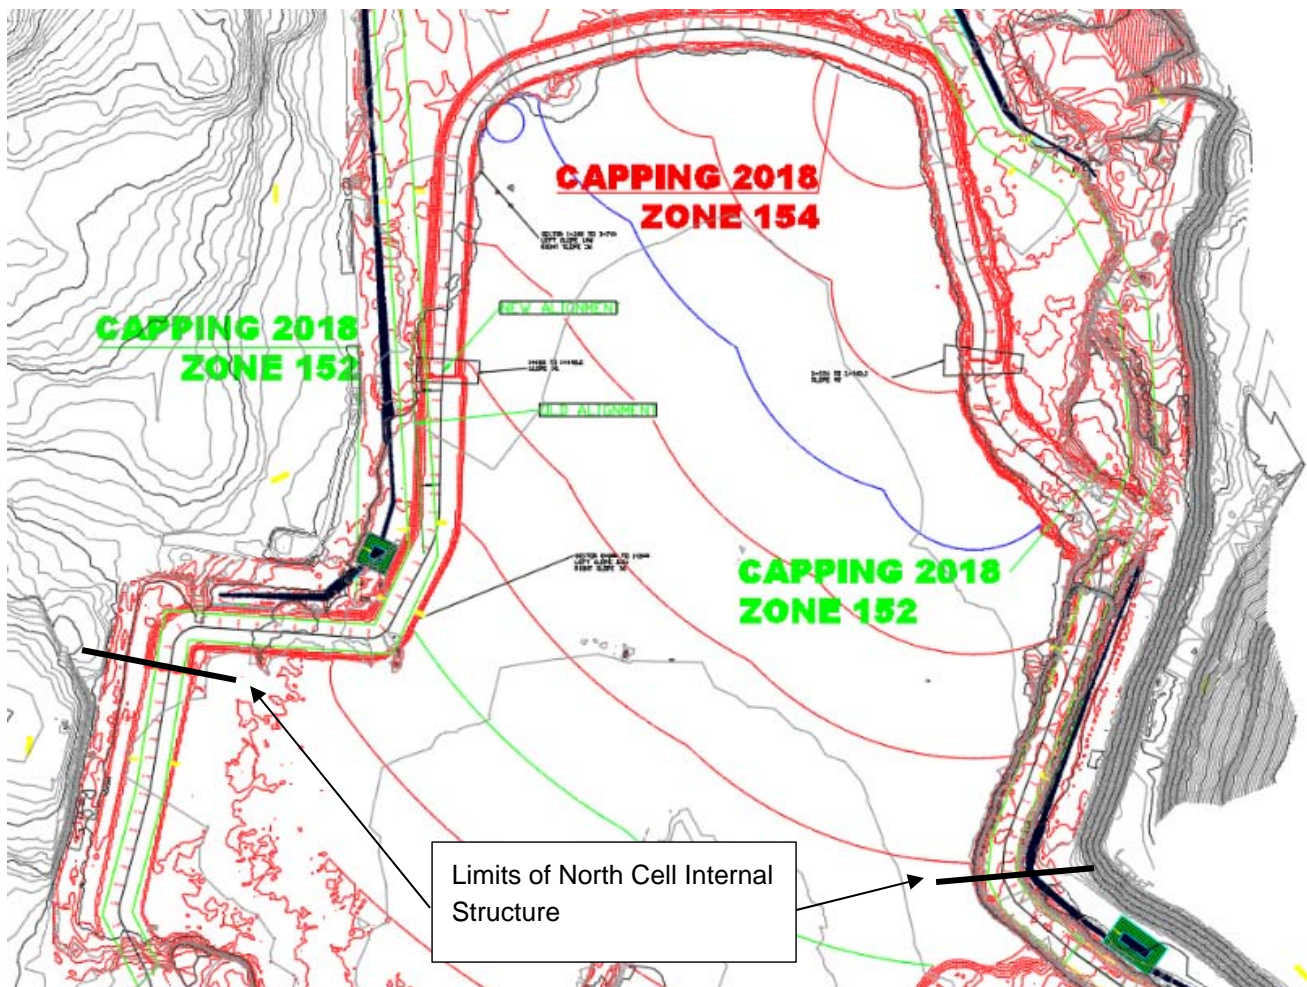

Figure 1: New proposed configuration for the North Cell Internal Structure and planned deposition
- The limits of the North Cell Internal Structure have been modified by AEM based on the most recent deposition plan. The section at El. 154 m has been shifted toward the east (see Figure 1 below).